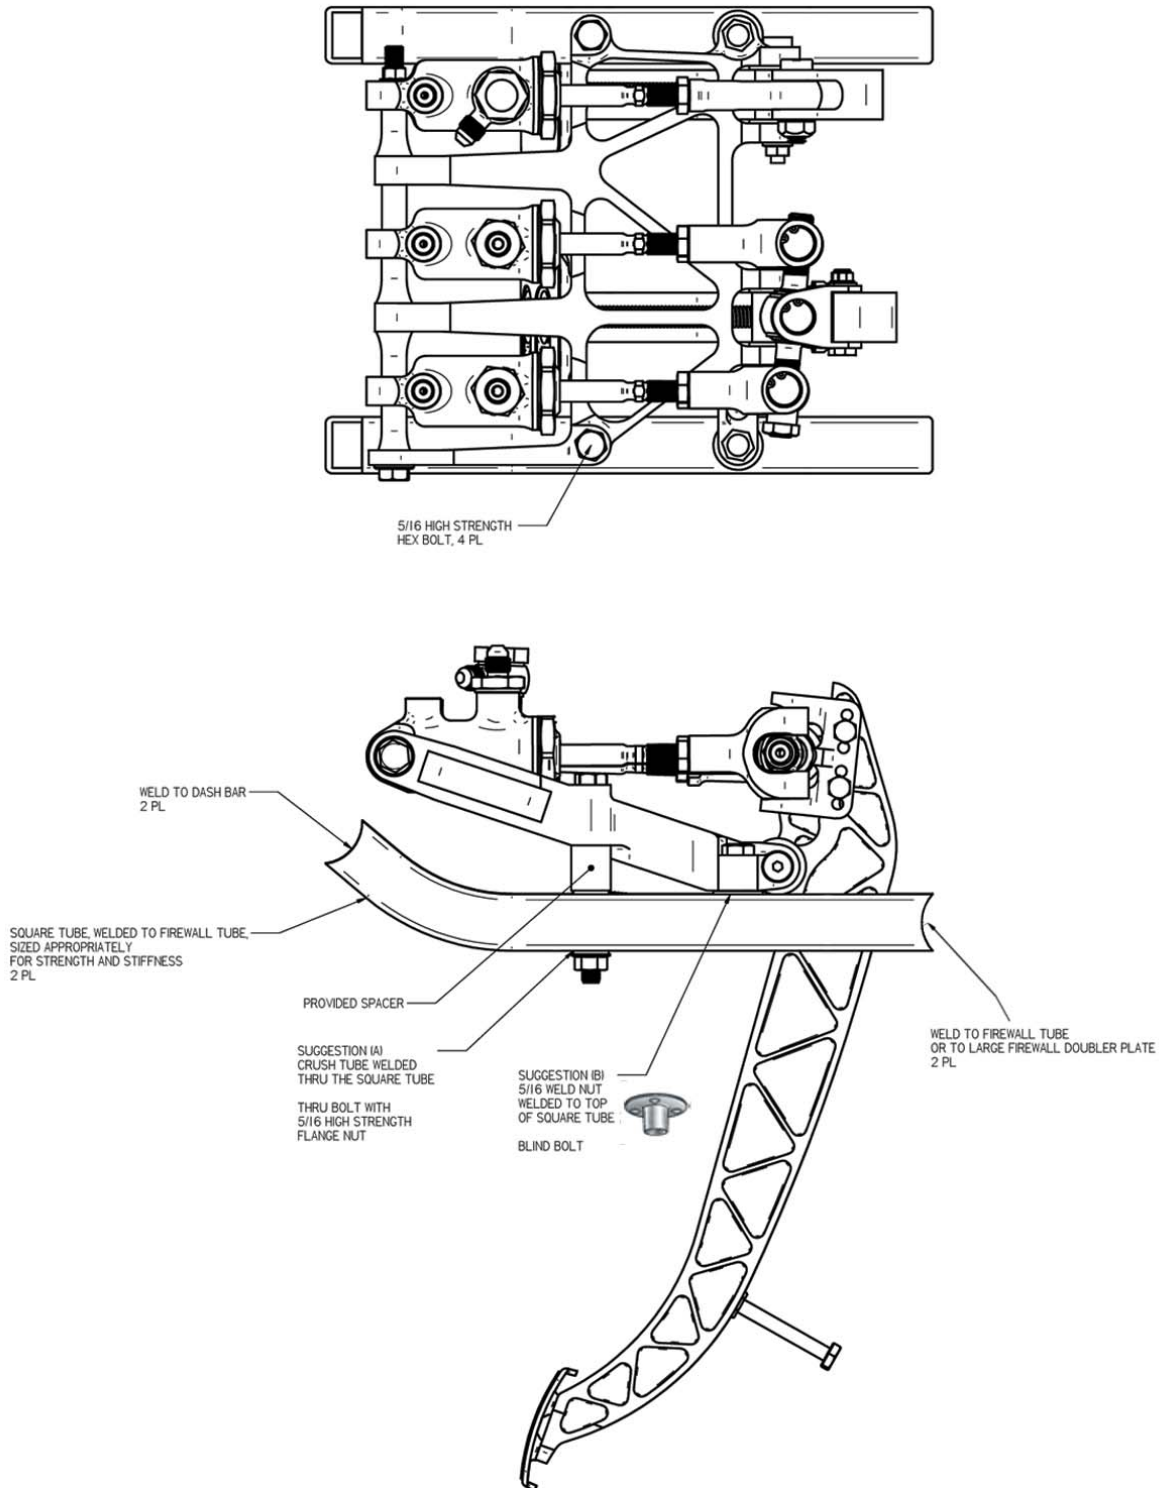

Figure 1
- 1) A pedal assembly can only be as rigid as its mounting system in the car. See **Figure 1** for suggested mounting techniques.